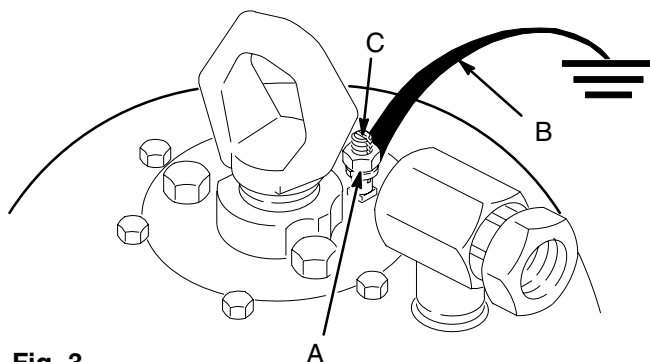

Fig. 3
1. *Pump:* Loosen the grounding lug locknut (A) and washer. Insert one end of a 12 ga (1.5 m²) minimum ground wire (B) into the slot in the lug (C). Tighten the locknut securely. See Fig. 3. Connect the other end of the ground wire to a true earth ground. Order a Grounding Wire and Clamp, P/N 237569, (25 feet (7.6 m) long, 12 ga.).